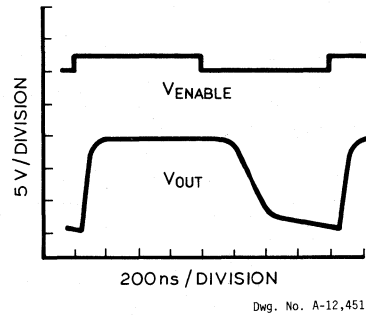

FIGURE 3
1. The output waveform for a chopping frequency of 600 kHz, and a 50-ohm resistive load, is shown in Figure 3. With higher load resistances, the fall time may increase significantly.